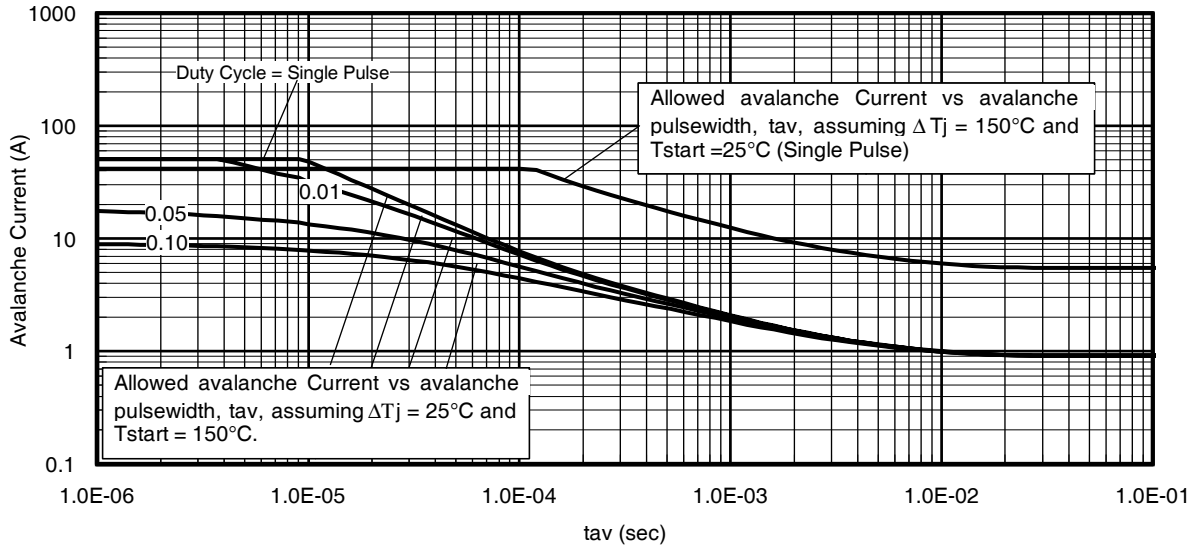

Fig 15. Typical Avalanche Current vs.Pulsewidth
**Notes on Repetitive Avalanche Curves , Figures 15, 16:**
7.  $\Delta T$  = Allowable rise in junction temperature, not to exceed  $T_{j\text{max}}$  (assumed as  $25^\circ\text{C}$  in Figure 15, 16).